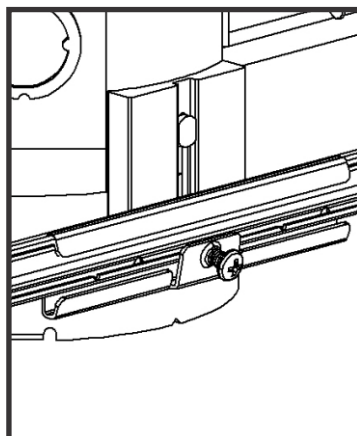

Figure 4
Step 5. Loosen the two wing nuts inside the junction box. Adjust the vertical position until edge of box is flush with ceiling surface. Tighten the two wing nuts **very tightly**; use a plier to ensure adequate tightness (Fig. 4).